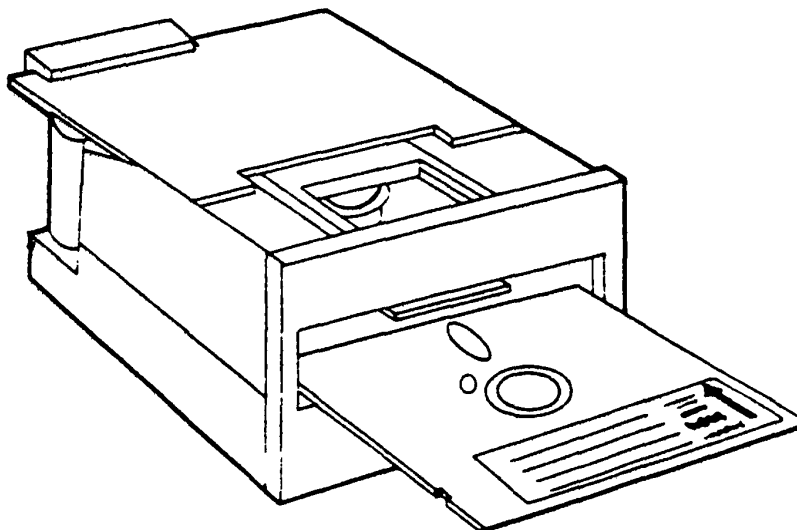

Figure 2: Diskette Orientation
3.1.1.3 Remove diskette from its storage envelope and insert in the drive. The index hole and tab must be on the left side of the jacket and the label on the upper surface. Push the diskette gently forward until a "click" is heard. (See Figure 2.)